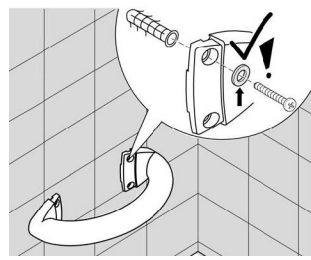

Fig. 8
4. Fix the bathroom handle to the wall using the included wall mounting kit (Fig. 8).